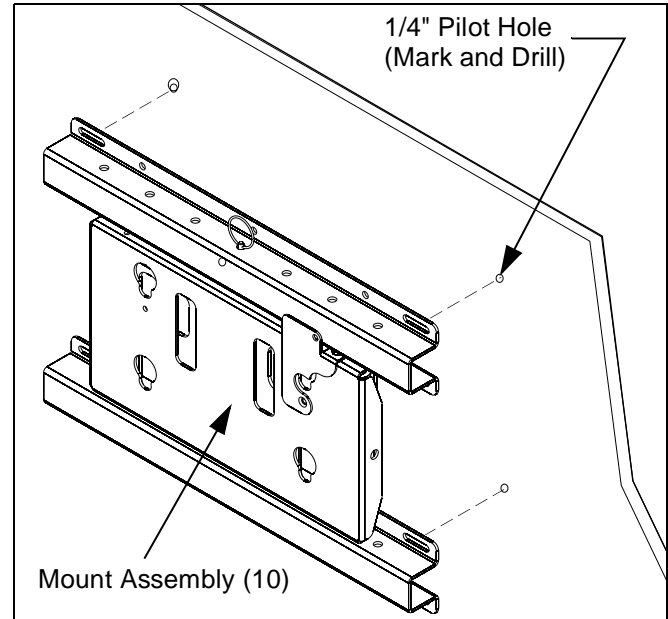

Figure 3: Locate, Mark and Drill Pilot Holes
2. Place mount assembly against wall, level mount, and mark pilot hole locations (See Figure 3).
3. Drill four 1/4" pilot holes, at marked locations (See Figure 3).